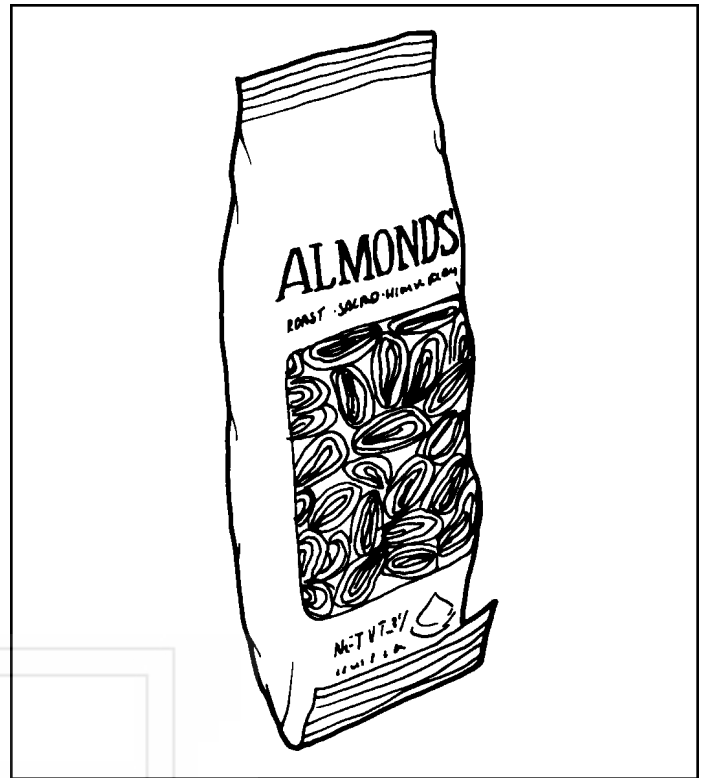

Figure 8. Fold bagged items bottom edge forward and up.
9. Bagged or Boxed Items in the 10-selection shelves, if not loaded properly, could be a problem. The sealed edge of the bag may get under the spiral wire causing the product to hang up after it has been vended. It is recommended that the lower edge of these types of product be folded forward and up (Figure 8.) next to the product before inserting into the spiral space. It is also recommended to use an 18 count spiral for bagged items because of the product settling to the bottom of the package.